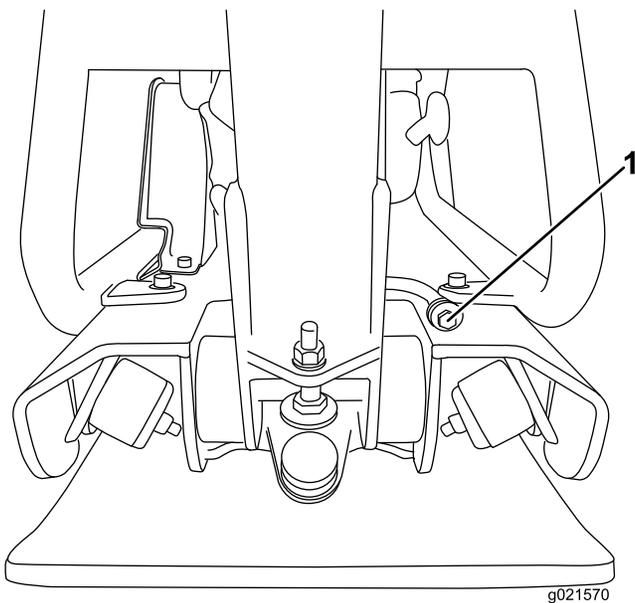

Figure 20
3. Remove the drain plug (Figure 20).